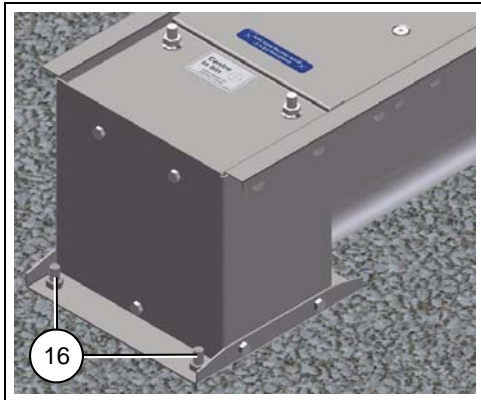

Figure 4I
1. Center the unloader in the bin foundation. Anchor to the bottom of the knock-out with the concrete anchor bolts (16) (not provided). (See Figure 4I.)